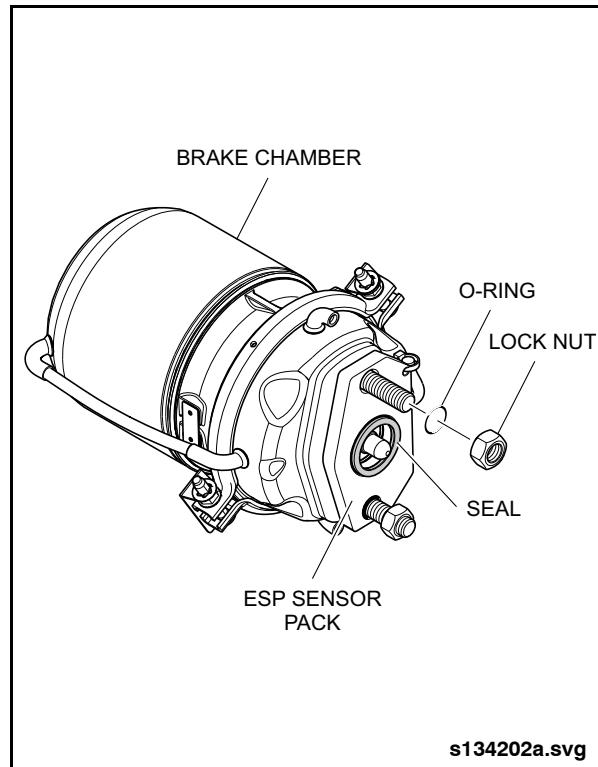

Fig. 2-144: Rear Brake Chamber ESP Sensor Pack
- a. Note the position of the ESP sensor pack and carefully remove it from the brake chamber. Retain the two O-rings. See "Fig. 2-144: Rear Brake Chamber ESP Sensor Pack" on page 124.